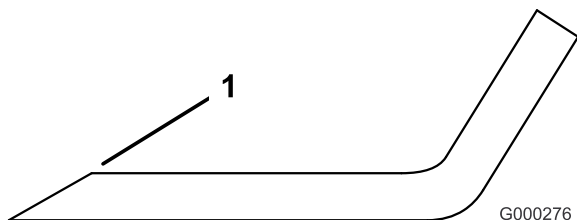

Figure 56
1. Use a file to sharpen the cutting edge at both ends of the blade (Figure 56).